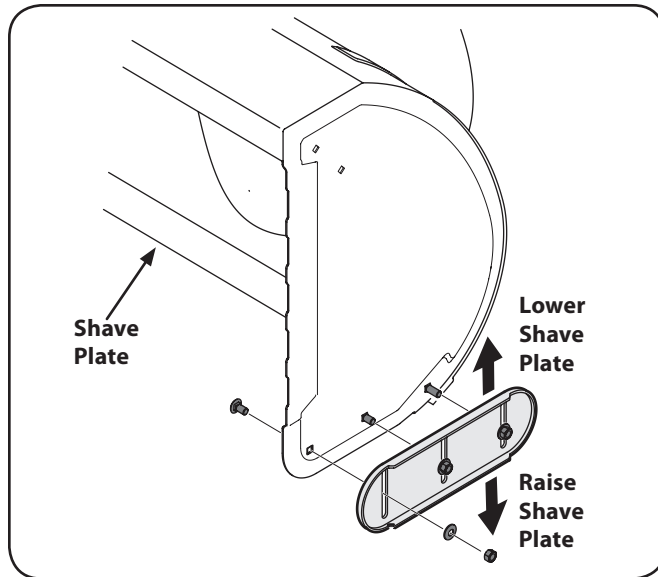

Figure 3-12
1. Adjust skid shoes by loosening the six (three on each side) hex nuts, washers, and carriage bolts securing the skid shoes to the auger housing. Refer to Figure 3-12.
2. While observing the distance between the shave plate and the ground, adjust the skid shoes up or down to achieve the desired shave plate height. See Figure 3-12.